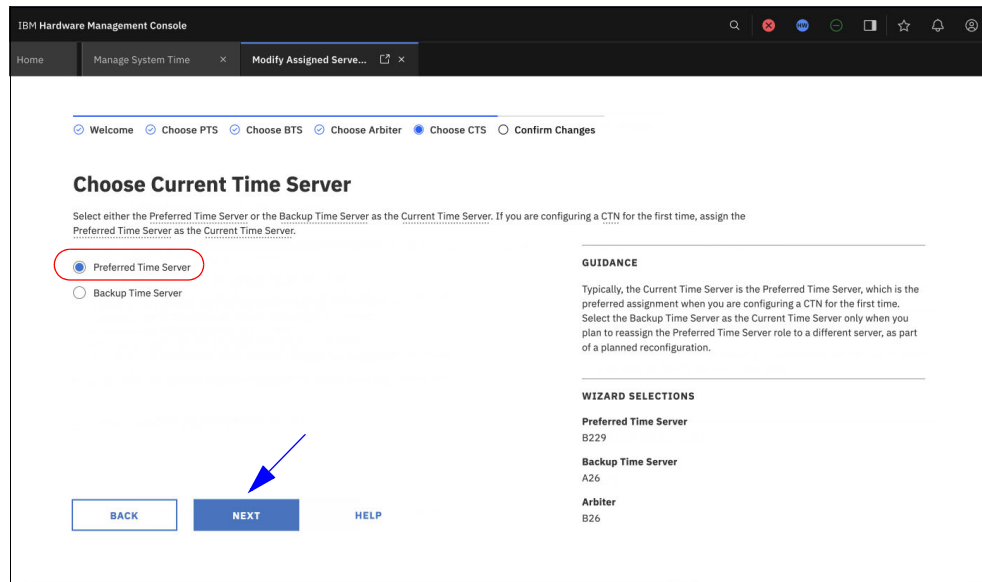

Figure 3-30 Selecting server for the Current Time Server
4. Select the Current Time Server, as shown in Figure 3-30 on page 56.